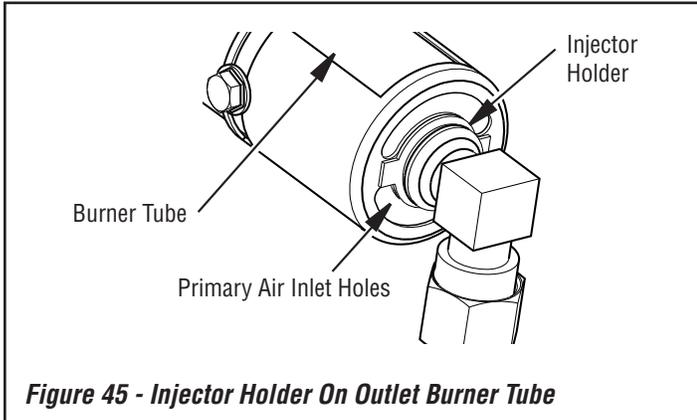

Figure 45 - Injector Holder On Outlet Burner Tube
2. Inspect burner, pilot and primary air inlet holes on injector holder for dust and dirt (see **Figure 45**).